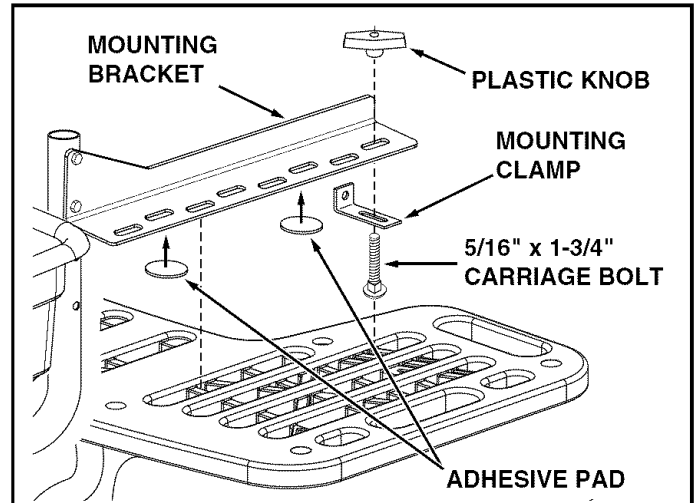

FIGURE 6
8. Attach the spreader's mounting brackets to the vehicle's rear rack using four 5/16" x 1-3/4" carriage bolts, mounting clamps and plastic knobs. Use the adhesive pads to protect the rack. See figure 6.